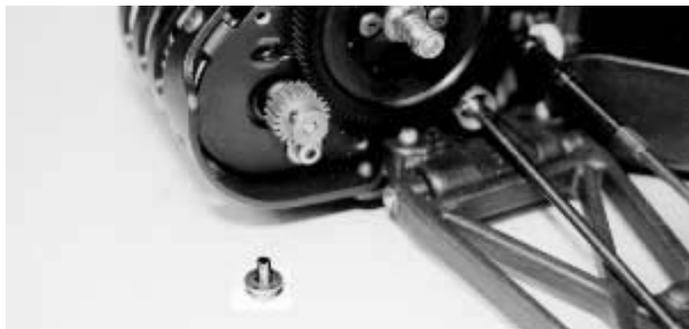
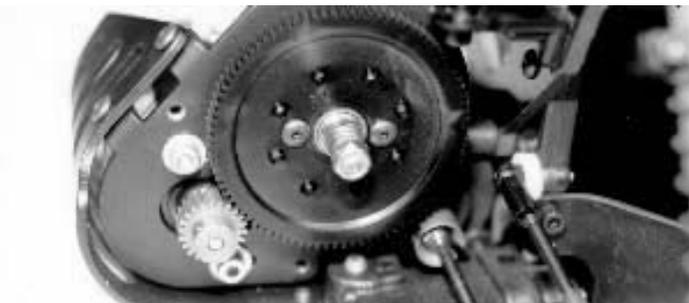

Fig. 157
Fig. 158
□ **Figs. 157 & 158** FOR THE BALL BEARING KITS you will find the #6515 3mm x 6mm gold colored motor mounting screws along with two #6936 #4 aluminum flat washers in a separate small bag inside the kit bag. **FOR THE BUSHING KITS** the same parts will be in the motor bag.
Install the motor into the motor opening from the left side so that the shaft and pinion gear will stick through the gearing opening in the motor plate. Fasten the motor to the bottom motor mounting hole of the motor plate using the #6515 screw and #6936 washer as in fig. 157. Now install the upper mounting screw the same way (see fig. 158). **WARNING! Do not use any of the black 4-40 screws to mount the motor. The motor mounting holes are 3mm and the black 4-40 screws can strip out the holes in the motor can, making the motor unusable.**